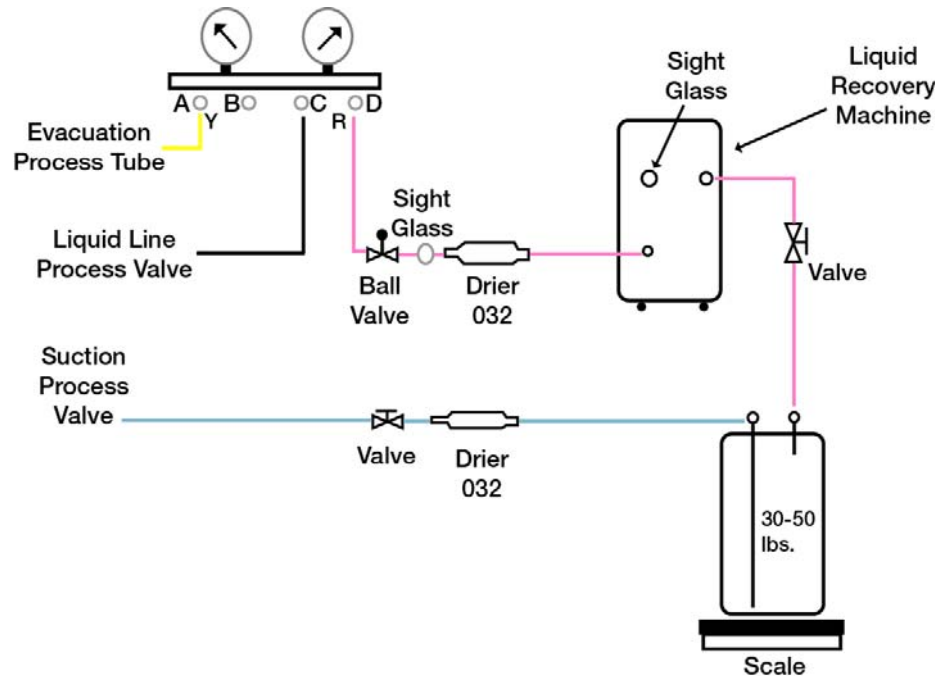

Figure 10. Backflush Connections
CAUTION: If backflushing due to acid oil, replace the drier with a straight piece of copper tube. Remove the oil separator and connect the condenser inlet pipe to the *Liquid Line Process Valve* connection shown in Figure 10.
6. Cut the suction line 3" from the compressor and install a process tube adaptor; connect this to the *Suction Process Valve* connection shown in Figure 10.